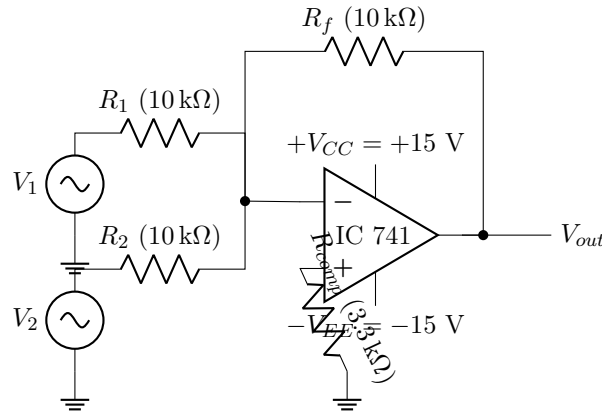

Figure 1.1: Inverting Summing Amplifier (Adder) Circuit Diagram
The schematics for the Inverting Adder and Subtractor are shown in Figures 1.1 and 1.2.
1. Wire the IC 741 on the breadboard according to Figure 1.1. Connect $\pm 15 \text{ V}$ power supplies.